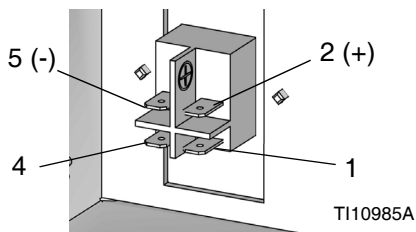
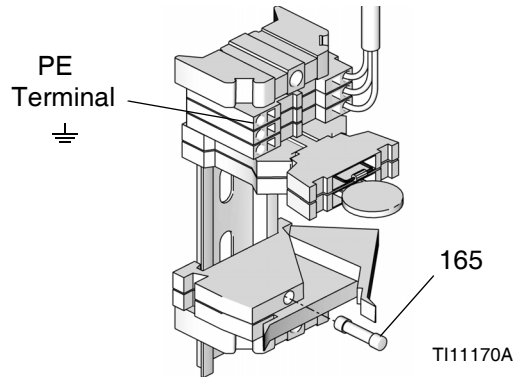

FIG. 37
FIG. 38
2. Mount 24 VDC module (154) on mounting bracket (151).
3. Mount power switch (159) on mounting bracket (151).
4. Attach quick disconnects on cable from 24 VDC module (154) to terminals on power switch (157).
5. Install power supply output cable to CAN cable (163).
6. Attach 24 V Class 2 power supply to terminals on the power switch: +24 VDC to terminal 2 (+) and 24 VDC return to terminal 5 (-). See FIG. 37. Attach protective earthing (PE) conductor to terminal marked \perp . See FIG. 38. The 24 VDC power supply must be capable of supplying at least 1.0 Amp and have supply current protection rated at no more than 2.5 Amps.
7. Install cover plate (160), screws (156), and washers (164).